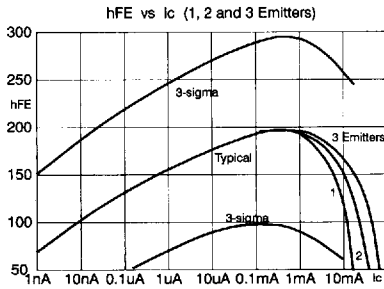

Figure 1
- Current gain = 100 to 300 (Figure 1)